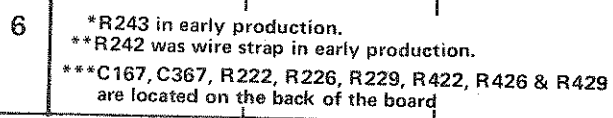

Fig. 4-1. 603/604 Deflection Amplifier component location grid.
When changing from Sweep operation to XY operation, it is necessary to set the XY-YT switch S350 to the XY position (see Fig. 4-1, Deflection Amplifier Board, Grid 4A). The Sweep Board interconnecting plug P558 must be disconnected from the Control and Interface Board (604) or Storage Board (603), and the dummy P558 plug reinstalled, to connect pin 2 to pin 8 on the board.